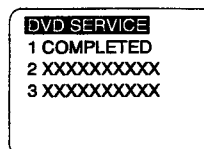

Fig. 2-3
- If no error detected, "COMPLETED" will appear as shown in Fig. 2-3. Be sure to press Power OFF to end. Then, press Power ON again and remove a DVD from the DVD Unit.